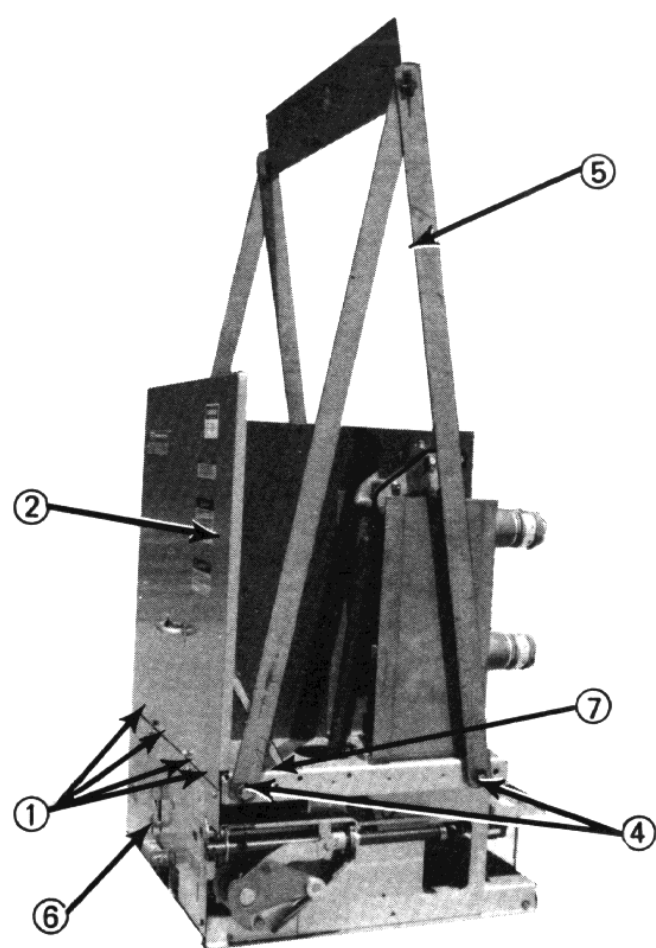

Fig. 1 — Circuit Breaker Assembly with Lifting Yoke Installed
Referring to Fig. 1, if it is necessary to raise or move the breaker, attach a lifting yoke (5) at points 4 on both sides of the truck, or a fifth wheel at point 6 to transport the breaker as required.
The interphase barrier assembly (2, Fig. 1) must be removed for access to and inspection of the vacuum interrupters, and their associated adjustments.
Removing Interphase Barrier (See Fig. 1)
Installing Interphase Barrier (See Fig. 1)